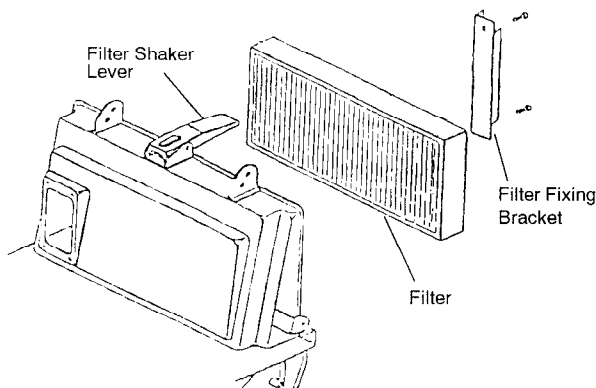

FIG. 3.
- b. Loosen the two screws from the filter fixing bracket. (Figure 3)